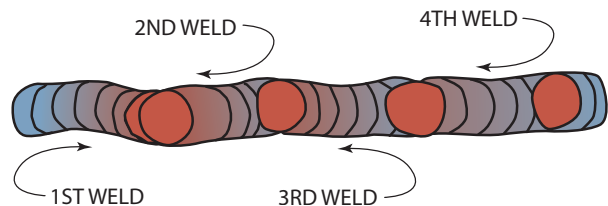

FIGURE 28-2 Welding sequence to produce the minimum weld stresses. © Cengage Learning 2012
- **Welding procedure**—The size of the weld bead, the number of welds, and the length of the welds all affect the weld. When large welds are needed, it is better to make more small welds than a few large welds. The small welds serve to postheat the weld. They reduce stresses and result in less distortion. Sometimes a series of short back-stepping welds can be made, Figure 28-2. For example these short welds can be used on very brittle metals like cast iron.